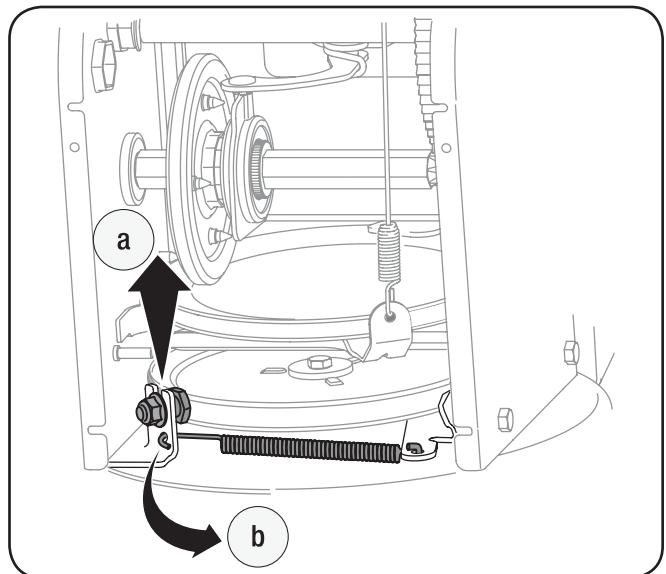

**Fig. 7-4**
6. Remove the belt as follows. See Fig. 7-4.